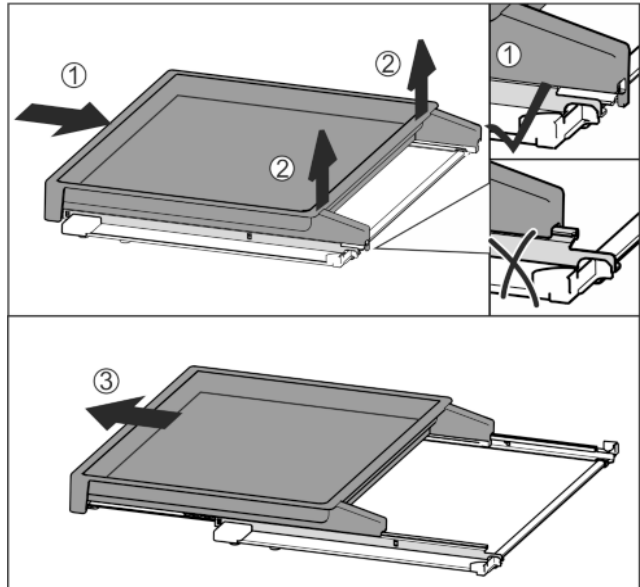

Fig. 37
- ▶ Slide the pull-out board all the way in Fig. 37 (1).
- ▶ Release the clips at the back Fig. 37 (2).
- ▶ Remove the pull-out board from the front Fig. 37 (3).